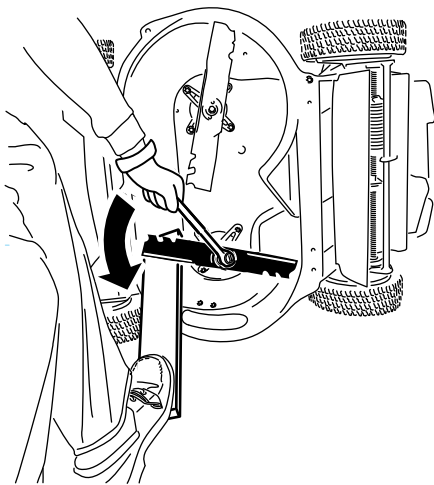

Figure 29
- Use a block of wood to hold each blade steady and turn the blade bolt counterclockwise as shown in Figure 29.